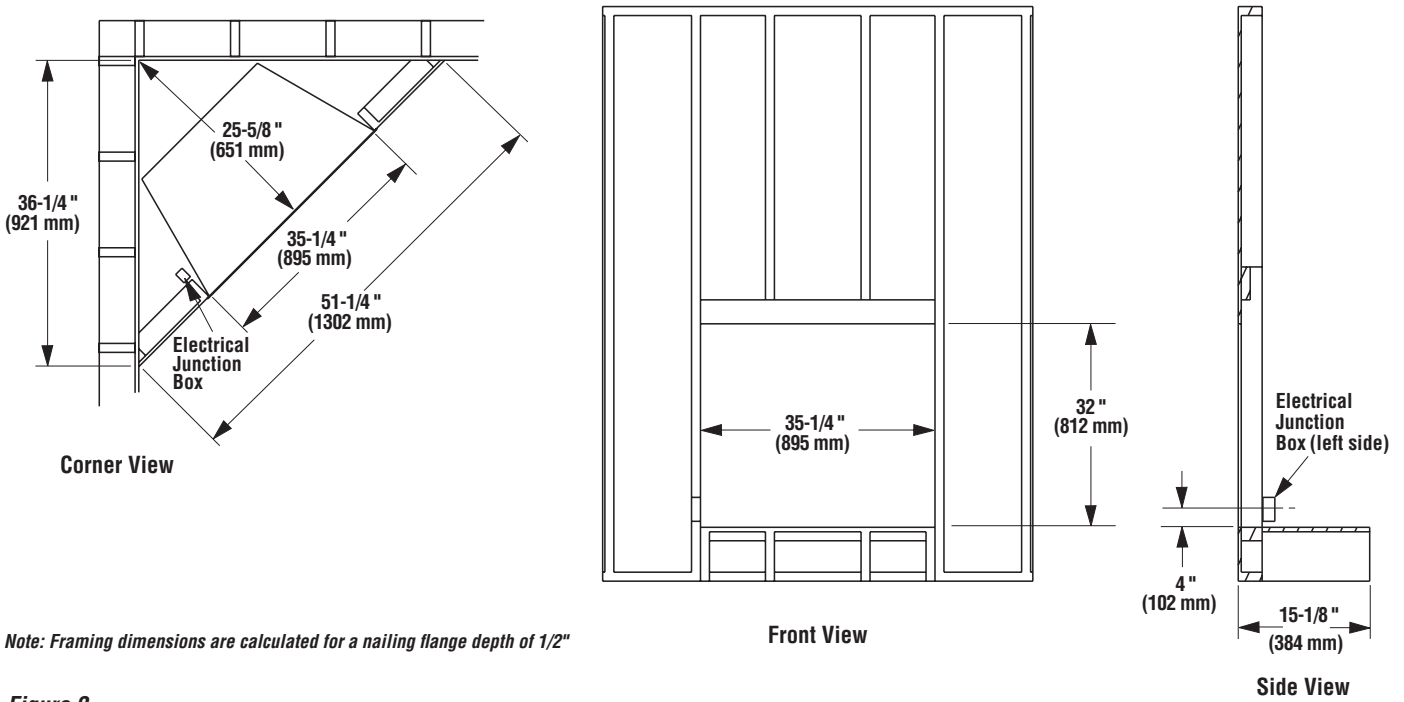

Figure 2
1. Complete the framing opening to the dimensions specified in *Figure 2*.
**120 Volt Connections** - Locate the power cord on the left side of the unit and connect it to the outlet installed during the framing (see *Figure 2*). Verify that the power to the receptacle is off.